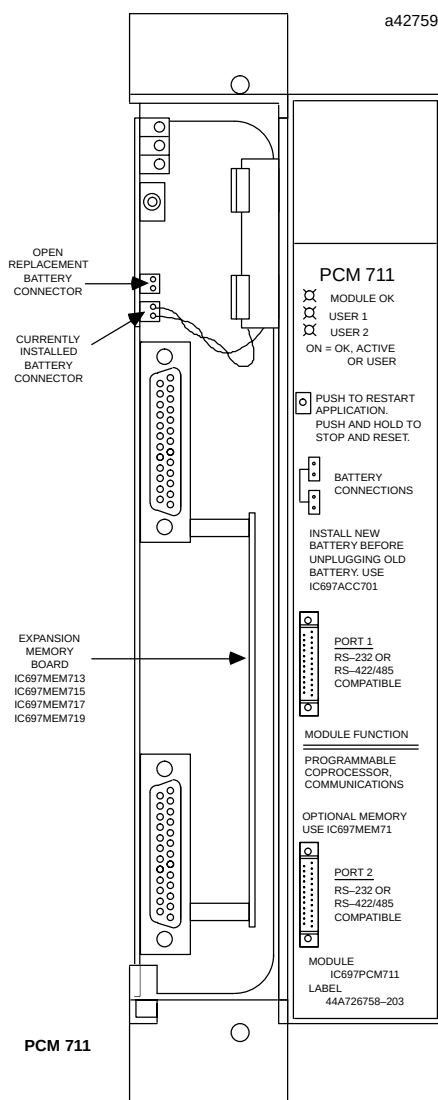

Figure 2. Programmable Coprocessor Module - User Details
- Connect the battery to either of the battery connectors on the module. (See figure 2)
The PCM can operate with or without an expansion memory daughter board. The base memory on the PCM board has up to 95 Kbytes user memory. The expansion memory daughter board permits expansion of program /data memory by 64, 128, 256 or 512 Kbytes. The battery which supports this memory is located on the base board housing as shown in figure 2.
Three Status LEDs are available as shown in Figure 2. The top LED indicates the condition of the module, the bottom two LEDs may be assigned to a configured function.